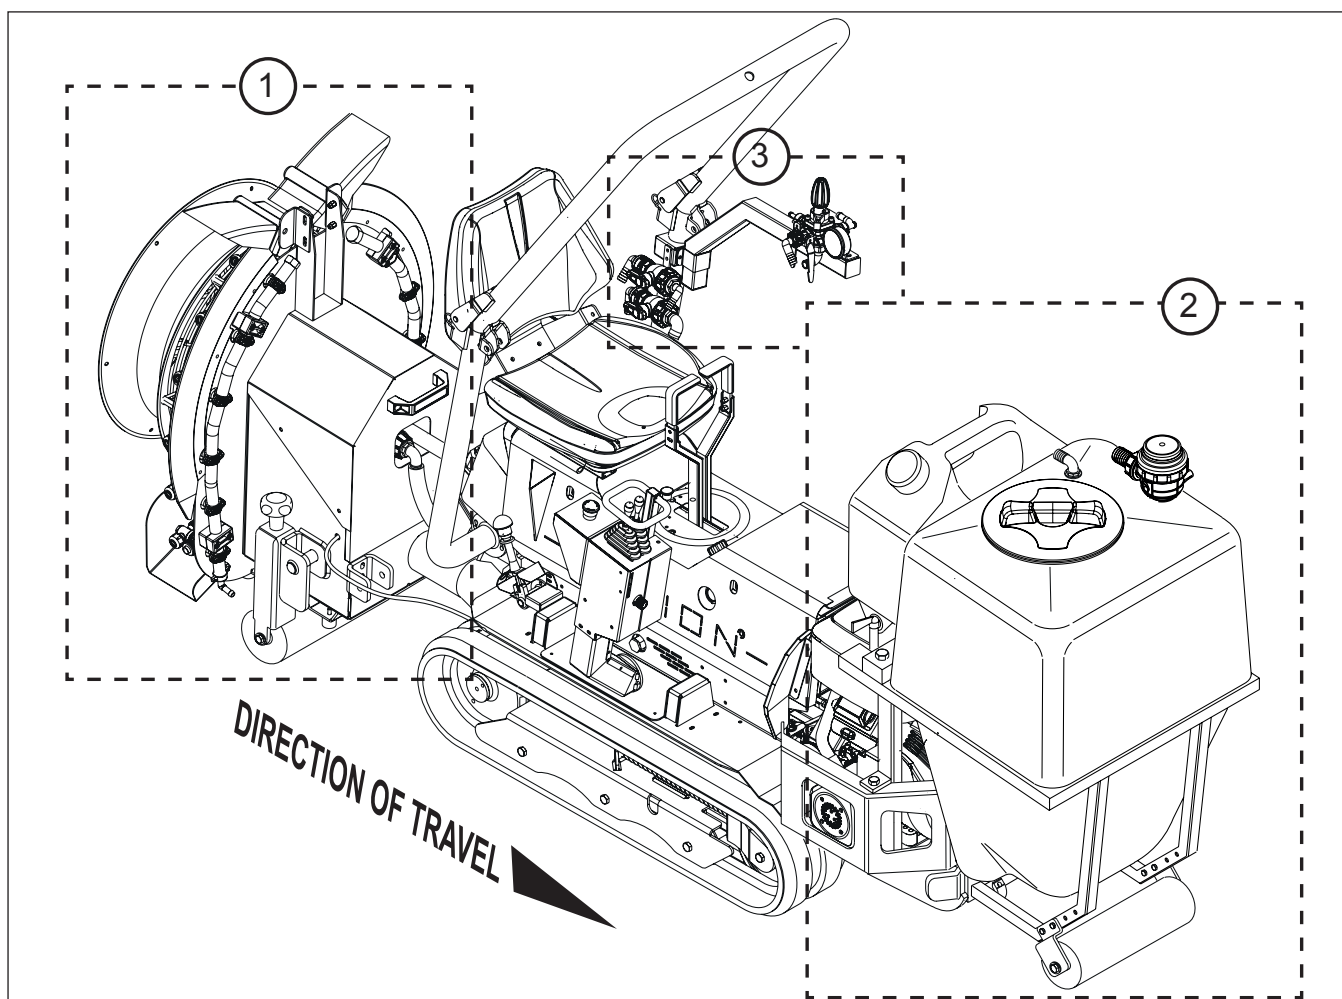
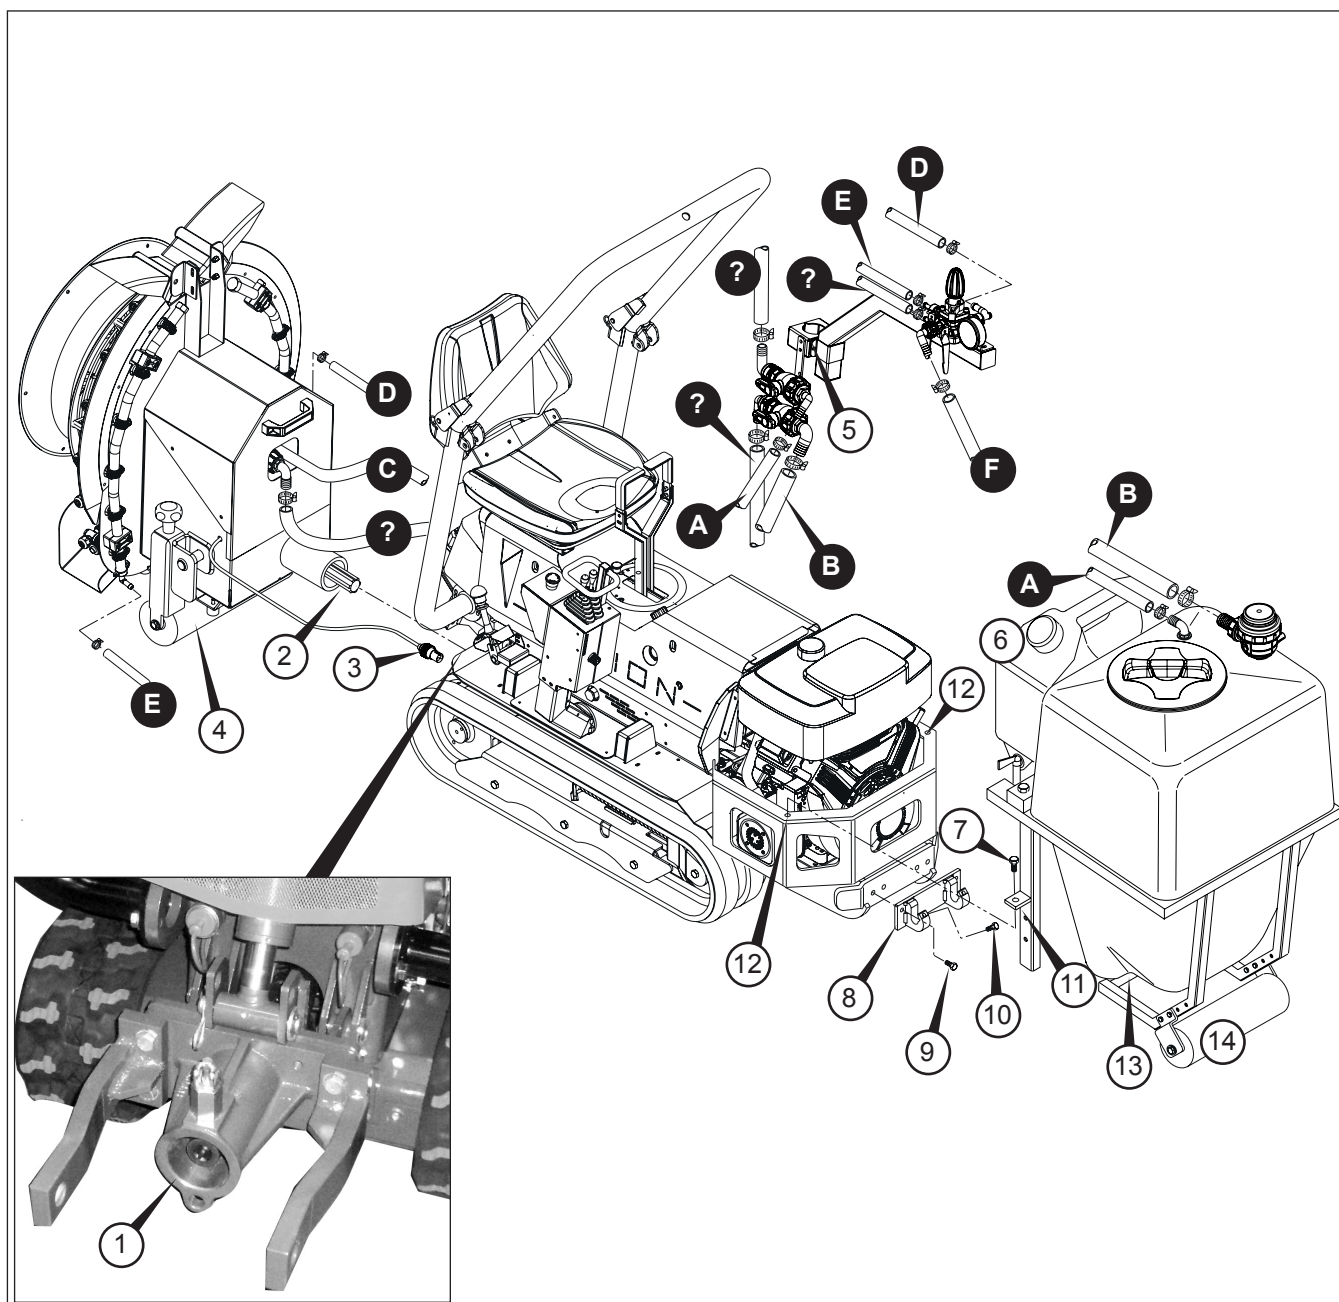

Fig. 17 - Groups that make up the atomizer
Fig. 18 - Mechanical assembly
The groups that make up the atomizer group can be identified in (Fig. 17):
The VISION multifunction machine must be positioned with the engine off, on level ground, well-locked, inside an equipped workshop. The seat must be as shown in the figure so that the engine is in front of the machine. If this is not the case, read the instruction manual of the machine under «Reversibility» and turn the seat to match the configuration shown in Figure 17: front product tank, rear fan.
The company «FORT» sends the various groups described, packaged and already assembled (see Fig. 17):
Figure 18 shows the complex of the main elements that make up the self-propelled atomizer.
Description Fig. 18:
6.2.1 ASSEMBLING THE FAN GROUP (1 FIG. 17)
- 1) Using a hoist, safely harness the fan group (1 Fig. 17) and position it so that the connection to the power take-off (1 Fig. 18) appears at the grooved pin (2 Fig. 18).
The stabilizer roller (4 Fig. 18) must be well supported on the ground.
- 5) Insert the 12 Volt plug (3 Fig. 18) to the socket on the tractor (2 Fig. hopper).
6.2.2 ASSEMBLING THE TANK GROUP (2 FIG. 17)
- 1) Install the front tank support bracket (8 Fig. 18) and secure it firmly with a 17 mm wrench, using the screws (9 Fig. 18).
- 2) Using a hoist, safely harness the tank group (2 Fig. 17) and keeping it raised let it descend so that the two tank support brackets (11 Fig. 18) match the two centering holes (12 Fig. 18).
At the same time, pay attention that the tank coupling tube (13 Fig. 18) go into the two hooks of the front support bracket (8 Fig. 18).
- 3) Insert the tank locking screws (10 Fig. 18) and after ensuring the correct insertion of the tank group in the brackets, tighten the screws in position using a 17 mm wrench (10 Fig. 18).
- 5) Insert the stabilizer roller (14 Fig. 18) fixing it with the relative screws, on the holes prepared for this purpose so that it appears about 10-15 cm from the ground.
6.2.3 ASSEMBLING THE CONTROL GROUP (3 FIG. 17)
6.2.4 PIPES (FIG. 18)
The references shown in Figures 18 and marked with letters on black dots, are related to the hoses, with the same letter (i.e. A-A) corresponding to the departure and arrival of the same pipe.